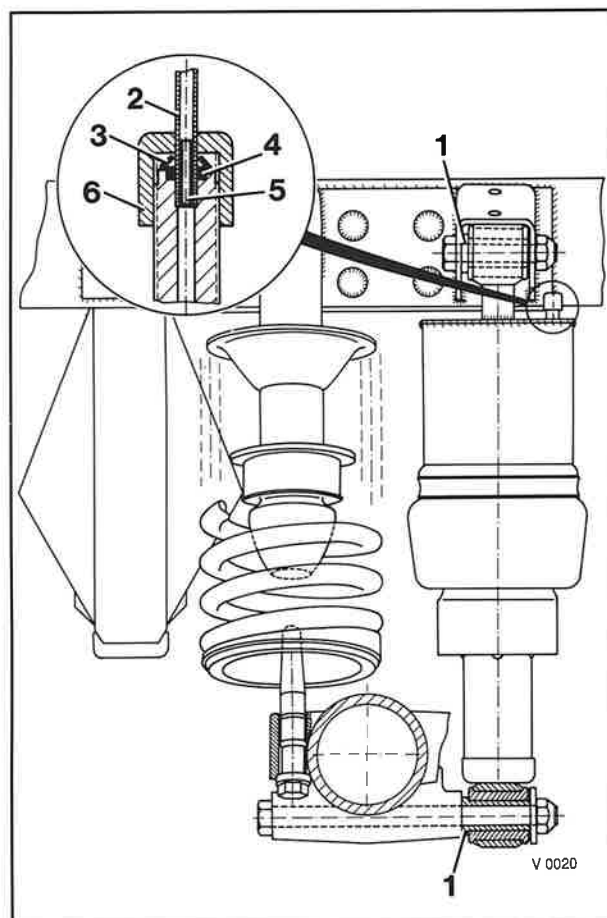

Fig. 25
- 36 Coat fastening screw to shock absorber over the whole length with Loctite Anti-seize, mount acc. to fig. 25 and tighten to 200 Nm. Lower wheel drive and remove jack.